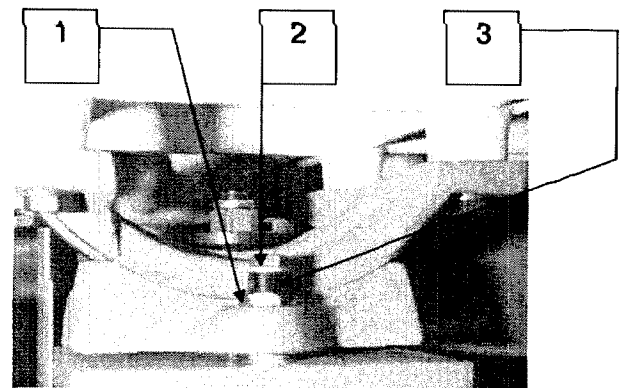

Figure 5.9
5.9 Setting the Table/Saw Blade Squareness (Figure 5.9)